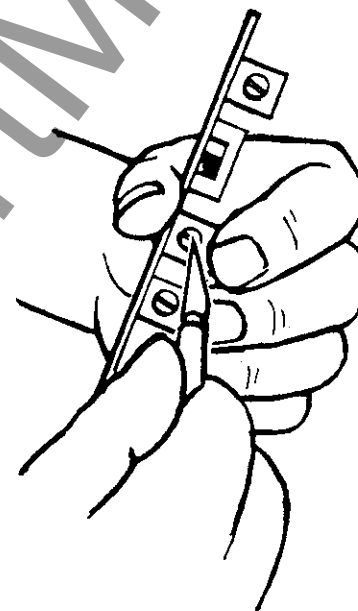

Figure 11. Potentiometer seal removal
5. Use a knife to scrape the seal off the potentiometer to be adjusted. Support the potentiometer with your fingers. See Figure 11.